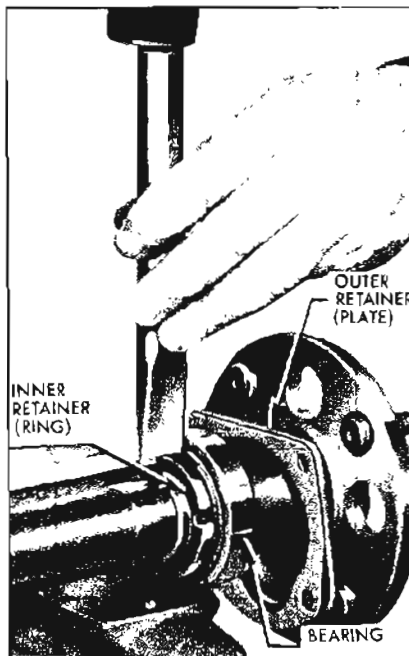

Figure 6-6—Removing Axle Shaft Bearing Retainer
1. Nick bearing retainer in 3 or 4 places with a chisel deep enough to spread ring. Retainer will then slip off. See Figure 6-6.